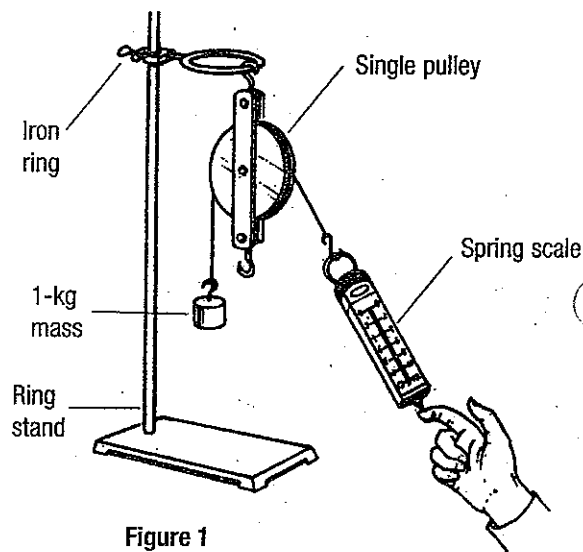

Figure 1
- Set up a single fixed pulley, as shown in Figure 1.